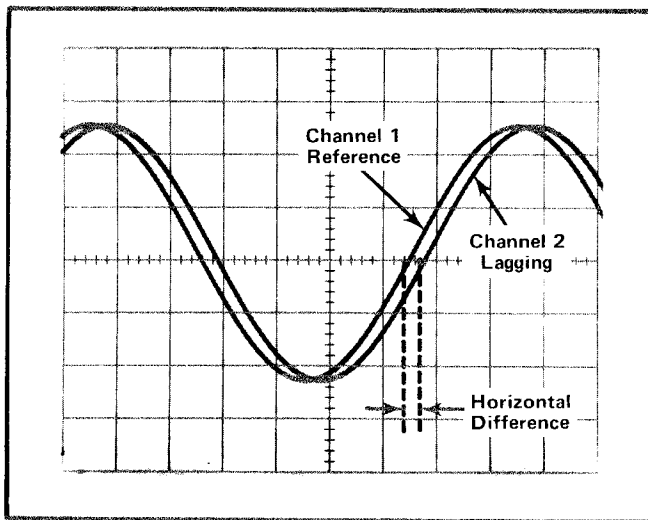
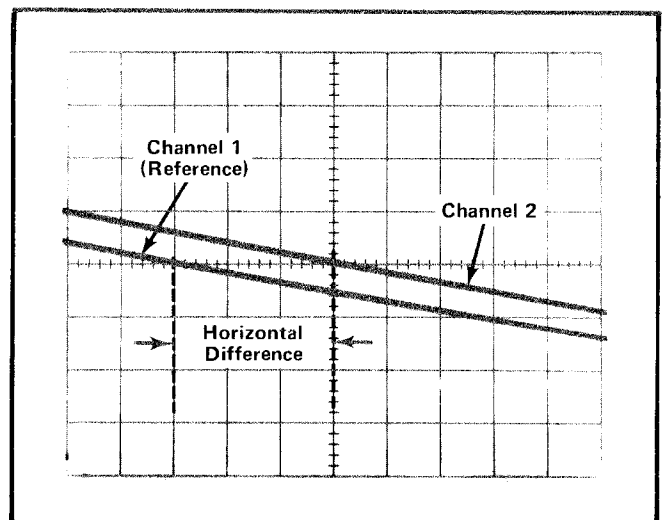

Fig. 2-4. Measuring phase difference between two signals.
Fig. 2-5. High resolution phase measurement using time-base magnifier.
8. Adjust the time-base Variable Time/Div control until one cycle of the reference signal occupies exactly eight horizontal divisions between the second and tenth vertical lines of the graticule (see Fig. 2-4). Each division of the graticule represents  $45^\circ$  of the cycle ( $360^\circ \div 8 \text{ divisions} = 45^\circ/\text{division}$ ). The sweep rate can now be stated in terms of degrees as  $45^\circ/\text{division}$ .
EXAMPLE: Assume a horizontal difference of 0.3 division with a sweep rate of  $45^\circ/\text{division}$  as shown in Fig. 2-4.
EXAMPLE: If the sweep rate is increased 10 times by the Magnifier, the magnified sweep rate is  $45^\circ/\text{division} \div 10 = 4.5^\circ/\text{division}$ . Fig. 2-5 shows the same signals as used in Fig. 2-4 but with the Magnifier set to X10. With a horizontal difference of 3 divisions, the phase difference is: